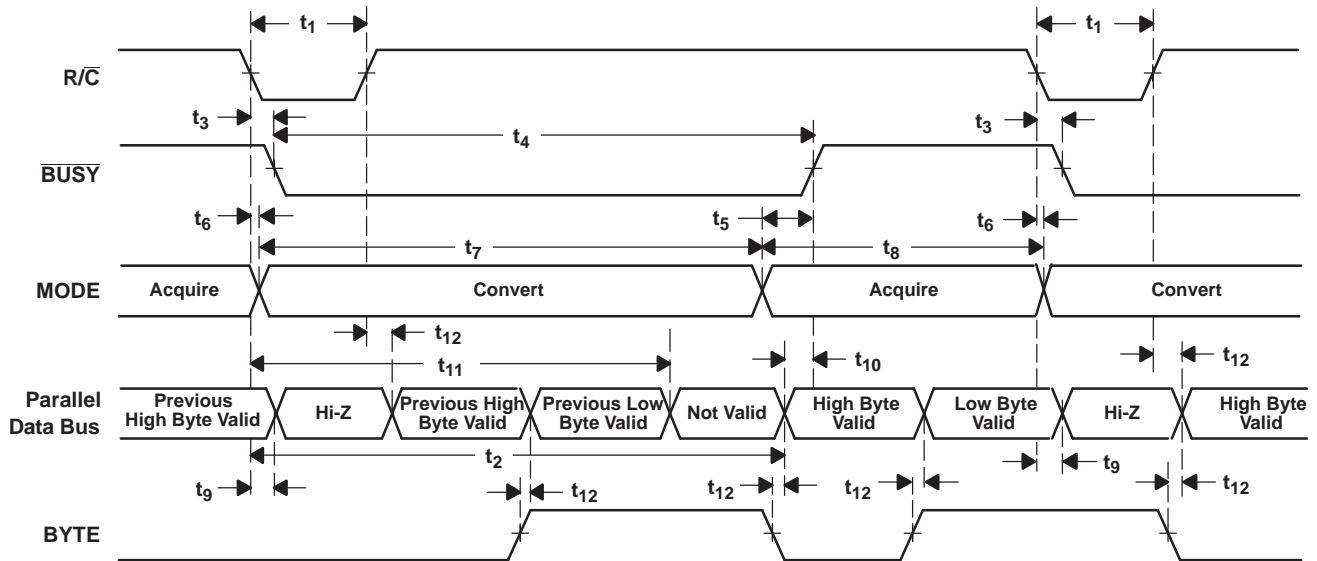
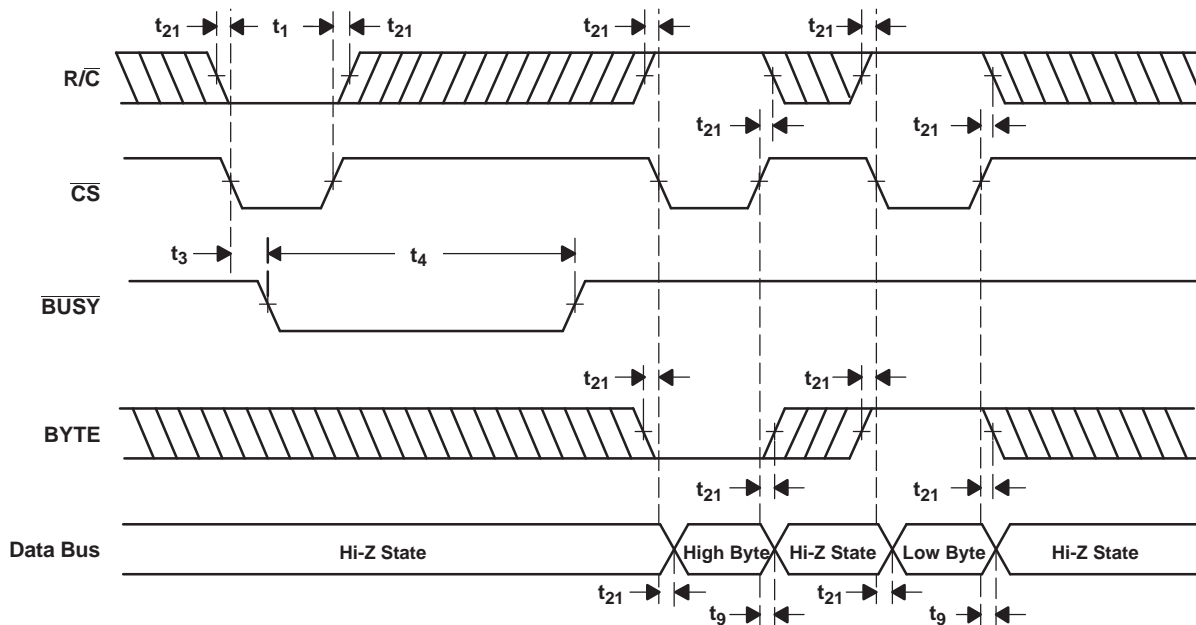

Figure 30. Conversion Timing With Parallel Output ($\overline{\text{CS}}$ and DATACLK Tied Low, EXT/INT Tied High)
Figure 31. $\overline{\text{CS}}$ to Control Conversion and Read Timing With Parallel Outputs
The ADS8517 begins tracking the input signal at the end of the conversion. Allowing 5 μ s between convert commands assures accurate acquisition of a new signal. Refer to Table 2 and Table 3 for a summary of \overline{CS} , $\overline{R/C}$, and \overline{BUSY} states, and Figure 30 through Figure 36 for timing diagrams.
(1) See Figure 30 and Figure 31 for constraints on data valid from conversion $N-1$.
After conversion *N* is completed and the output registers have been updated, $\overline{\text{BUSY}}$ (pin 24) goes high. Valid data from conversion *N* are available on D7-D0 (pin 9-13 and 15-17). $\overline{\text{BUSY}}$ going high can be used to latch the data. Refer to Table 5, Figure 30, and Figure 31 for timing specifications.
After conversion N has been initiated, valid data from conversion $N-1$ can be read and are valid up to $2.2 \mu\text{s}$ after the start of conversion N . Do not attempt to read data beyond $2.2 \mu\text{s}$ after the start of conversion N until $\overline{\text{BUSY}}$ (pin 24) goes high; doing so may result in reading invalid data. Refer to Table 5, Figure 30, and Figure 31 for timing constraints.